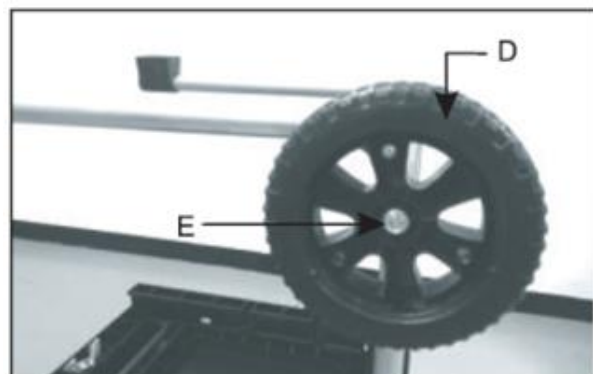

Fig.1C
4. Place the wheels (D) and install nut hand tight (E). (Fig.1C)